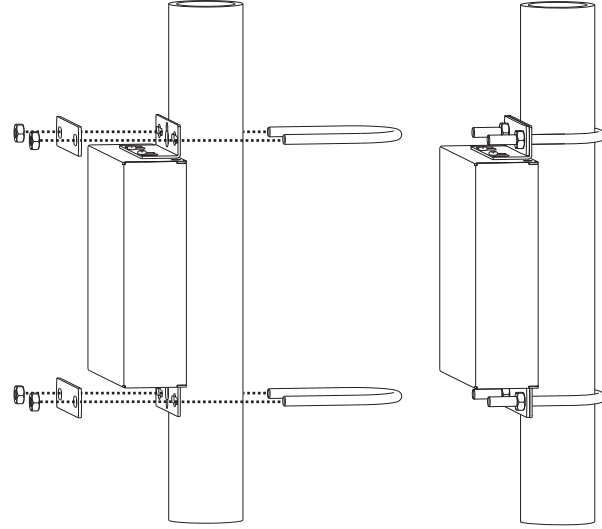

FIG. 9 Mount to projector pipe with bolts through brackets
The Pole Mount Kit is designed for mounting a single module to a projector pipe (or other 2 inch diameter pipes). The kit contains all the mounting hardware for the assembly in FIG. 9.
2. Insert the first u-bolt around the pole/pipe and through the bracket and plate according to FIG. 9.